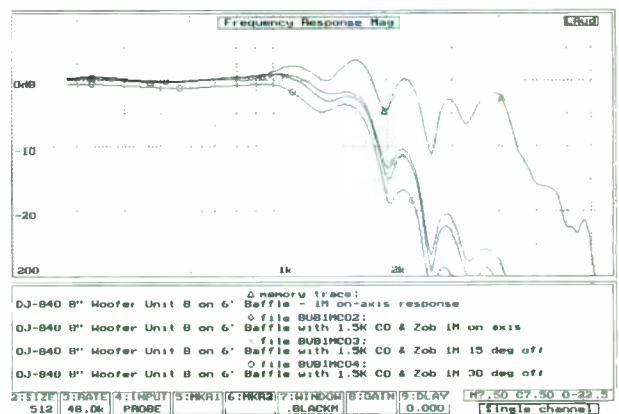

FIGURE 2: Woofer acoustic response on- and off-axis with 1.5kHz crossover.
We also evaluated the woofers to establish their upper-end frequency performance. Figure 2 shows the performance of the DJ-840 woofer. It starts to show ripples at about 1kHz, and we deemed it usable to about 1.5kHz in a two-way system. Also shown in Fig. 2 is the performance with a third-order 1.5kHz low-pass (LP) crossover; note that the performance holds up well off-axis to at least 30°.